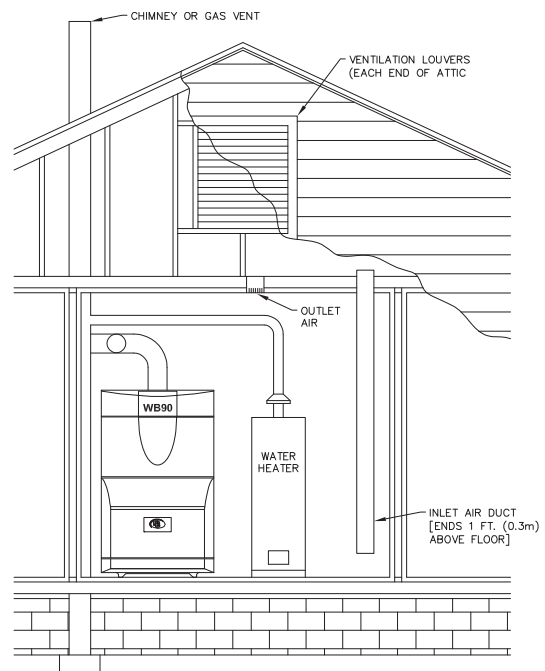

Figure 3.4: Combustion Air Inlet from Outdoors through an Attic
- Two permanent openings are to be provided as shown in Figures 3.4 and 3.5, one near the top of the space and one near the bottom. The openings must communicate directly to the outdoors, by means of ducts, or to spaces such as an attic or crawl space that freely communicates with the outdoors.